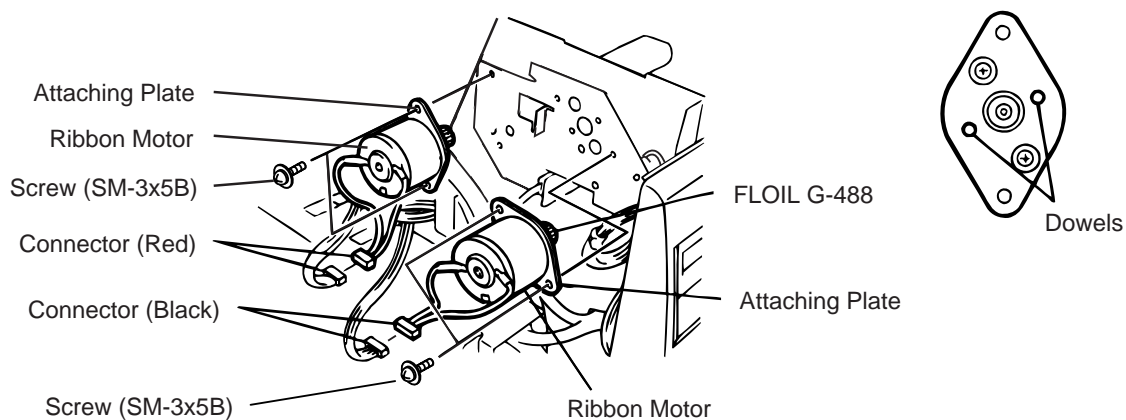

Fig. 2-11
1. NEVER separate the ribbon motors from the attaching plate, (bracket) because doing so will change their adjustment. (See Fig. 2-11)